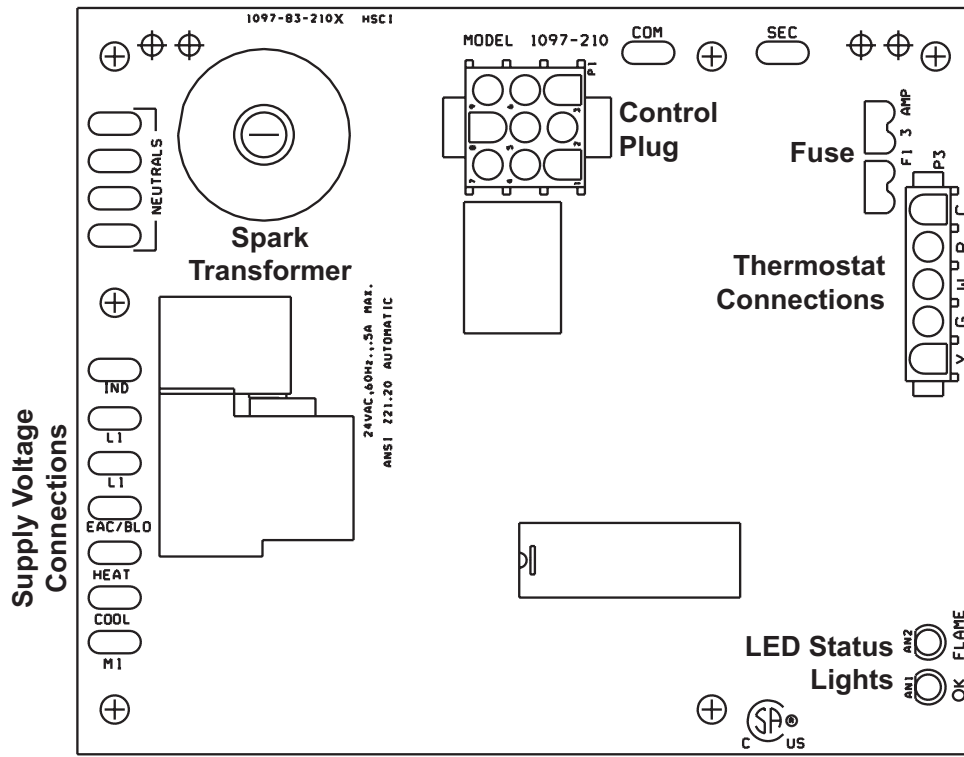

Figure 14. Circuit Board (DSI Control Module)
The circuit board (see Figure 14) is located in the control compartment of each heat section. The circuit board is polarity sensitive. It is advisable to check the electrical supply ensure that the black wire is the **hot** wire and that the white wire is the **neutral** wire. The **hot** wire must be connected to terminal L1 on the circuit board.
- Each heat section in the heater has a terminal strip for 24V thermostat connections. The terminal strip is located on the outside of the cabinet at the front of each heat section. Wires from the terminal strip(s) are factory-wired to the circuit board(s) (see Figure 14).
Each heat section's ignition system is controlled by a circuit board (Direct-Spark Integrated (DSI) control module, see Figure 14) that monitors the safety devices and controls the operation of the fan and venter motors and the combination gas valve between heat cycles. Troubleshooting the heater using the circuit board's LEDs is described in the Unit Troubleshooting Using DSI Control Module section.